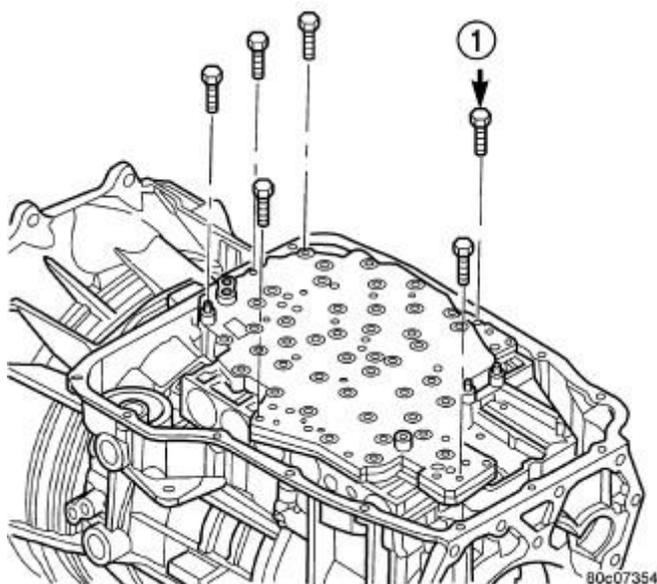

Fig. 118: Valve Body Bolts
1. Remove the valve body from the transmission. Refer to **Fig. 118** and **VALVE BODY, REMOVAL**.